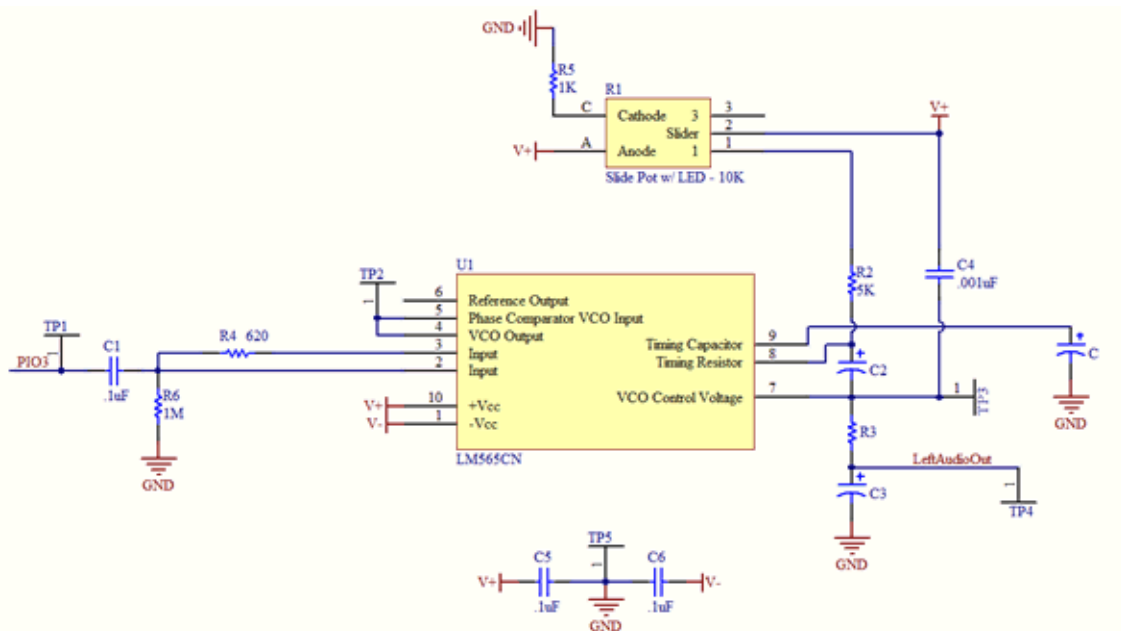

Figure 3: FM demodulator circuit using the LM565 PLL.
* Design the test circuit shown in Figure 3. Choose the free-running frequency of the Phase Locked Loop (PLL) equal to the carrier frequency of the FM signal. The design equation is $f_0 = 0.3/RC$, where $R = R_1 + R_2$. C_2 is coupling for the timing resistor. The value can be selected as $0.001\mu\text{F}$. R_3 and C_3 form a simple LPF for the output (which we hope is your recovered message signal).